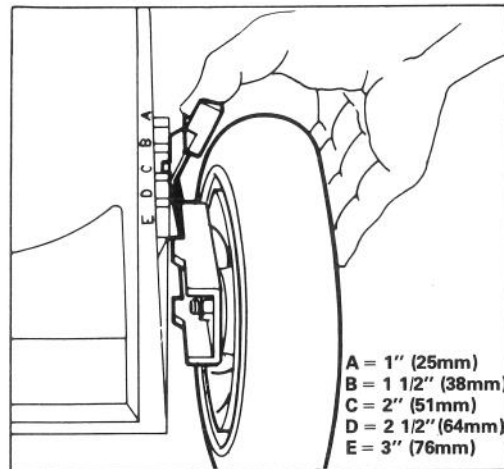

Figure 10
Five letters cast into the housing represent each graduated increment (Fig. 10).
2. For easier adjustment, lift housing up so wheel is off ground. Squeeze adjusting lever toward wheel and move them to desired setting (Fig. 10). Assure pin on adjusting lever engages notch in housing. Adjust all wheels to the same setting.